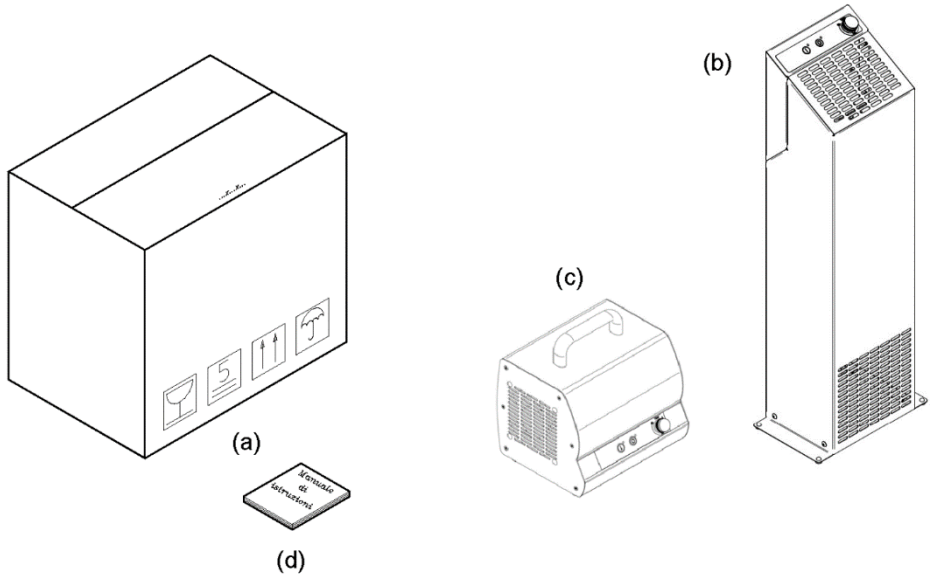

Fig. 4
### 3.1 - Shipping (See Fig. 4(c) and (d))
- robust external cardboard box (Ref. to Fig. 4) and cardboard and polystyrene or polyurethane foam internal supports;
- the machine (Ref. b or Ref. c Fig. 4);
- this manual (Ref. d Fig. 4).